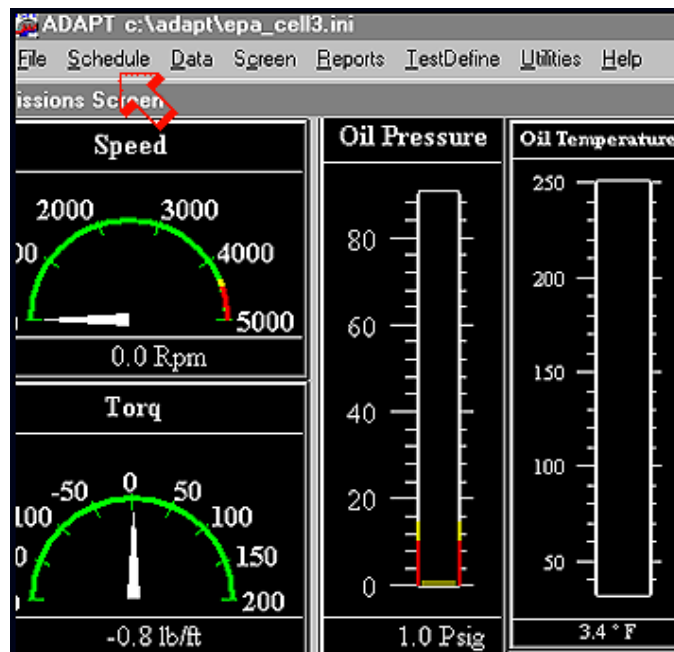

Figure 4
- 106 Click on "Schedule" at the top of the screen. See the arrow in Figure 4. Choose "Select Test" from the menu. The "Test Select" box will appear.